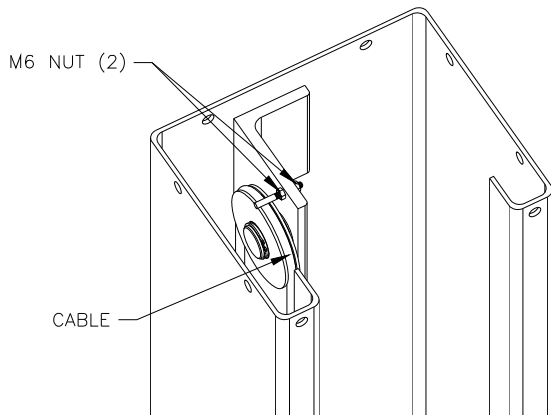

Fig 7-Upper Sheave
- 17) Remove the cable trapping bolt assembly, **Fig 7**, on the top sheave. Route the cable up through the carriage and over the sheave. Reinstall the cable trapping bolt assembly once cable is routed properly.